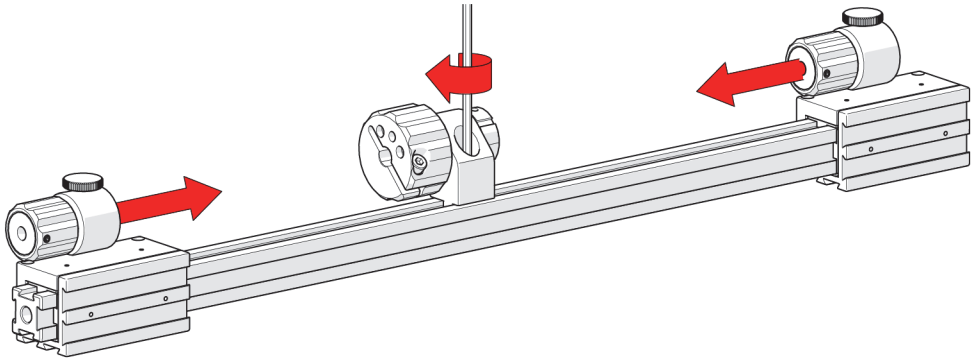

Figure 2-53 PPS sliders
3. Tighten the lock screw on the main knob bracket (see Figure 2-53 on page 73). Ease the two sliders onto either end of the frame bar and push the sliders to the desired position on the frame bar (see Figure 2-53 on page 73). The slider's friction fit requires an appropriate level of force to position the slider.